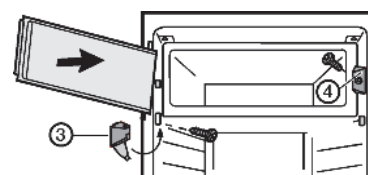

Fig. 4
- ▶ Fit the closing element Fig. 4 (4).
- ▶ Fit the turn hinge Fig. 4 (3) and fold the cover.